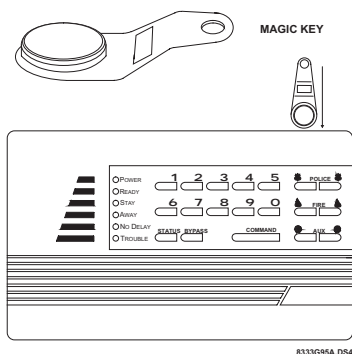

Figure 3. Inserting the Magic Key into the Slot
2. Insert the Magic Key into the panel key slot (see Figure 3).